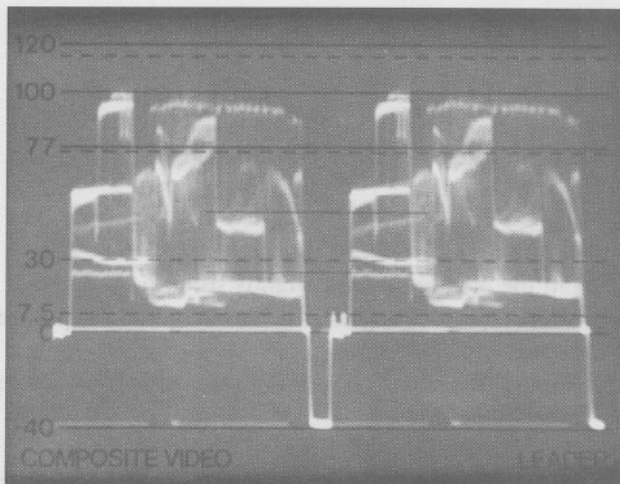

Figure 2-14. Use of the IRE filter on a color scene to set peak white level
1. Locate the white object on the waveform display. See Figure 2-14.
2. Set iris opening so that the peak white signal identified in Step 1 reaches 100 IRE. Note: For a clearer indication of peak luminance signal levels, depress the FILTER switch (5) to release it (button out). This inserts the IRE FILTER, and removes most of the sub-carrier signal to make luminance values easier to see.